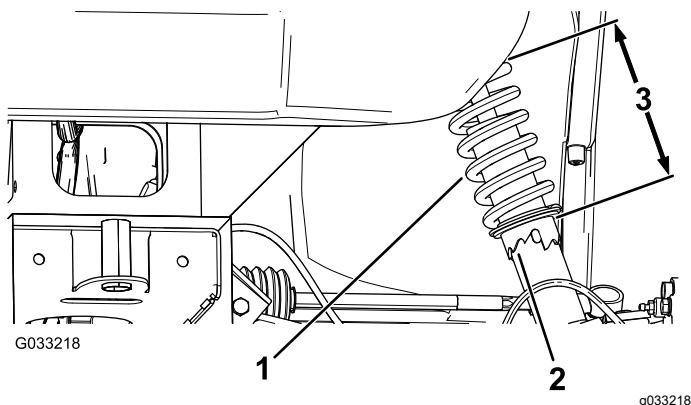

Figure 39
2. If the wheel camber is out of alignment, use the spanner wrench to rotate the collar on the shock absorber to align the wheel (Figure 39).